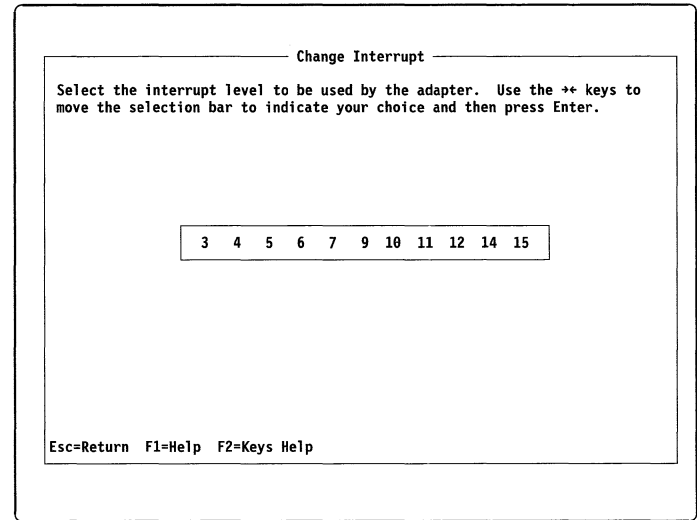

Figure 13. Change Interrupt Screen
3. From the Change Adapter Configuration screen, select the option that you want to change. The Change Interrupt screen, similar to the one shown in Figure 13, appears showing all the possible values for that option.